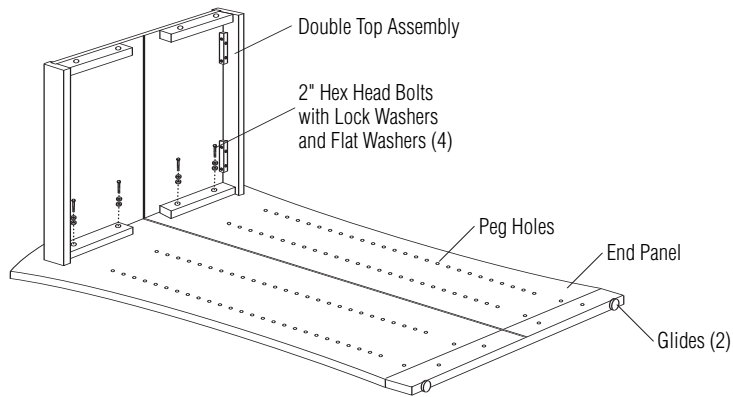

Figure 1
2. Position the double top assembly, routed side down on end panel. Align the pre-drilled holes with the inserts. Fasten with $\frac{5}{16}$ " x 2" hex head bolts and washers (Figure 1). **Note:** for shelving units 72" and higher, the top shelf assembly should be flipped so that the cleat side faces up.